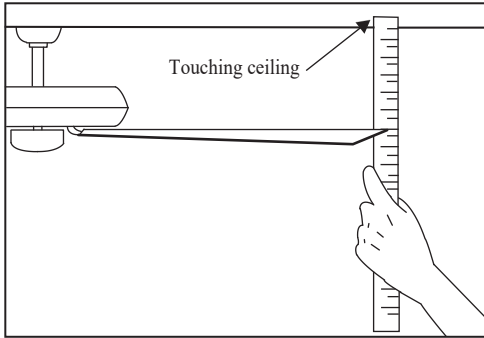

Figure 18
- Select a point on the ceiling above the tip of one of the blades, then select any fan blade and measure from the center of the selected blade to the point on the ceiling (as shown in Figure 18). Rotate the fan until the next blade is positioned and repeat the measurement using the same point from the ceiling for every blade. Measurement deviations should be within 1/8" .